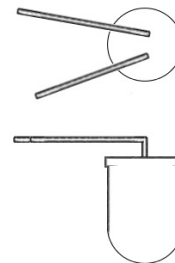

Fig 5C - LED leads
- 10 - Form the leads of the rainbow LED [Fig 5C]